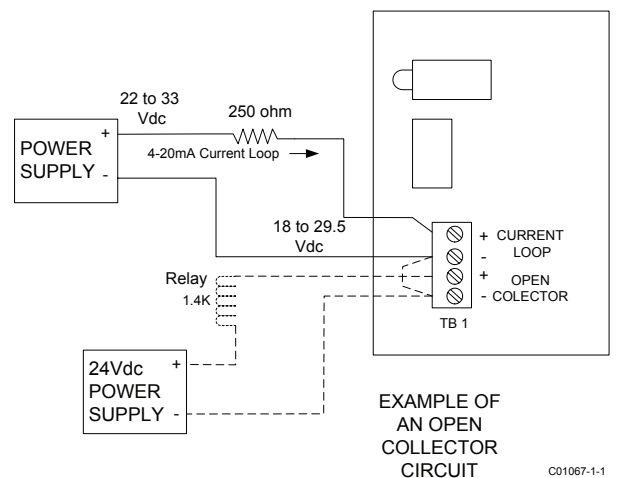

Figure 11 2 Wire (Loop Power)
4. Connect the loop power leads to P1 as indicated on the control circuit. See Figure 11. Make sure that an earth ground wire is attached to the earth ground terminal inside the housing. It is very important that the current loop connected to P1 maintains a voltage rang between 18 and 29.5 volts at the control circuit. Figure 11 shows a typical wiring configuration with a current sense device having 250Ω impedance. With this load, the power supply can be 22 to 33Vdc. Check the load impedance of the current sense device and the power supply and see if they are compatible the NuTec instrument.
5. If the open collector switch is needed, make the connections to P1. See example circuit Figure 11.